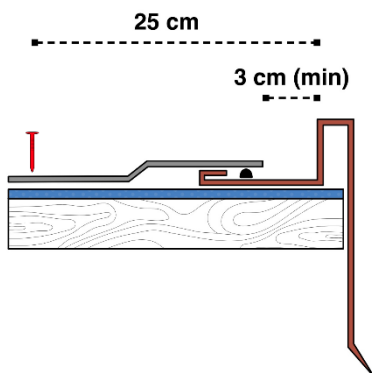

**Fig. 3** - Tracing of the pitch [cm]
- Draw horizontal lines parallel to **x**, each one distant 14.5 cm from the previous, until you reach the ridge - see Fig. 3.